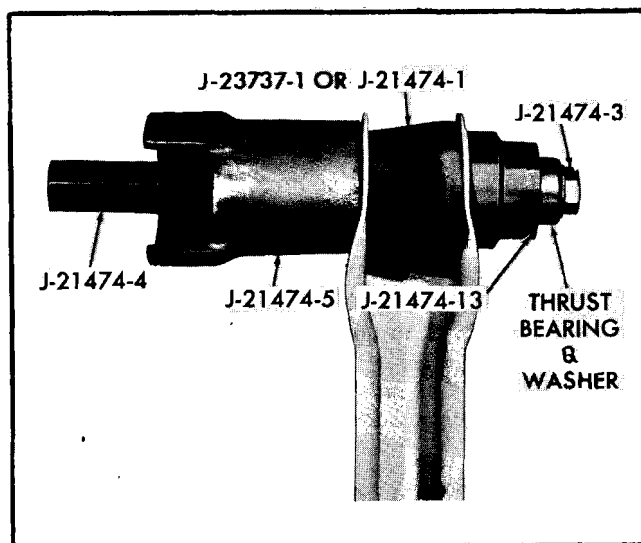

Fig. 4-33 Installing Upper or Lower Control Arm Bushing (Coil Spring Suspension)
1. Install bushing in control arm by arranging tools as shown in Fig. 4-33 and press into place.
1. Install bushing using components of tool J 21474 as shown in Fig. 4-33.